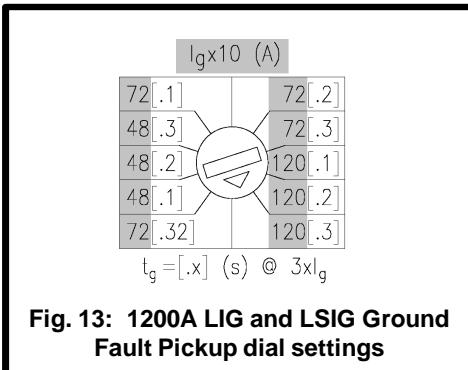

Fig. 13: 1200A LIG and LSIG Ground Fault Pickup dial settings
Circuit breakers with the LIG and LSIG catalog number suffixes have integral equipment ground fault protection in compliance with UL1053. The Ground Fault Pickup (I_g) setting is displayed in Amps. As shown in Fig. 13, there are three (3) Ground Fault Pickup settings available: 480A, 720A and 1200A.